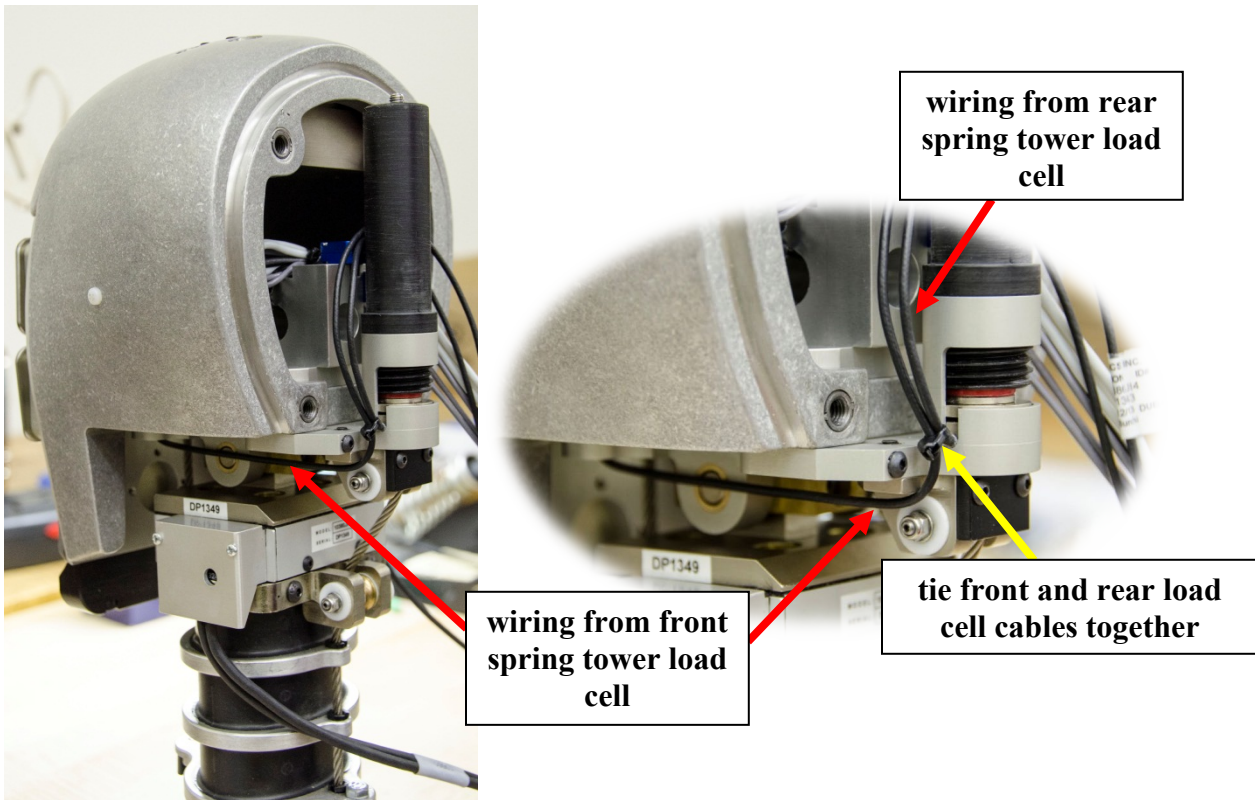

Figure 15-14. Route wires from spring load towers
15.4.1.4 Route the wire from the front spring tower load cell under the head as shown in Figure 15-14. Locate the wire from the rear spring load cell and cable-tie both front and rear load cell cables together.